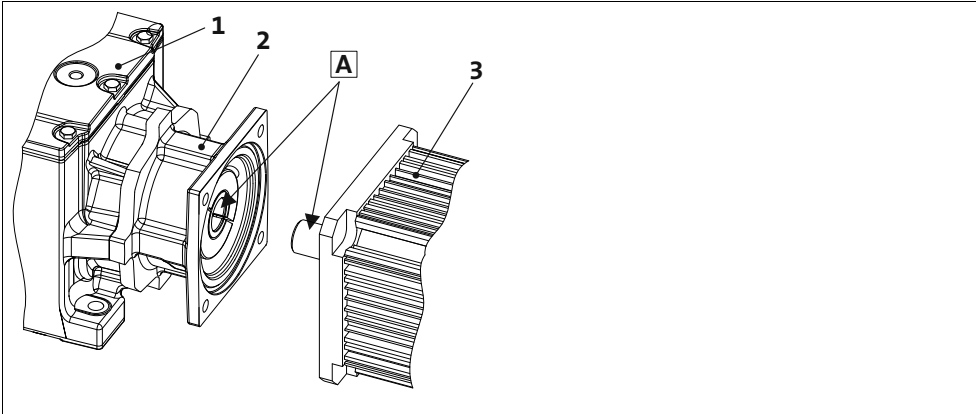

Fig. 4 Shaft surfaces
- Thoroughly clean and degrease hollow shaft bore and motor shaft journal, Fig. 4.